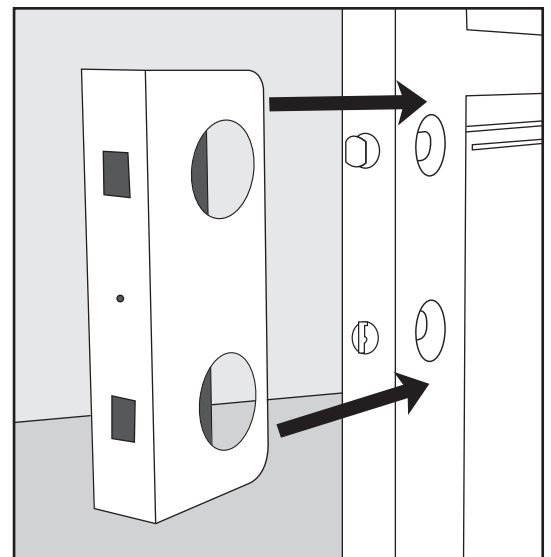

FIG. DS-03
2. Slide the Door Shield onto the door (FIG. DS-03). Position it so that the holes will go over the lock bolts still mounted in the door.